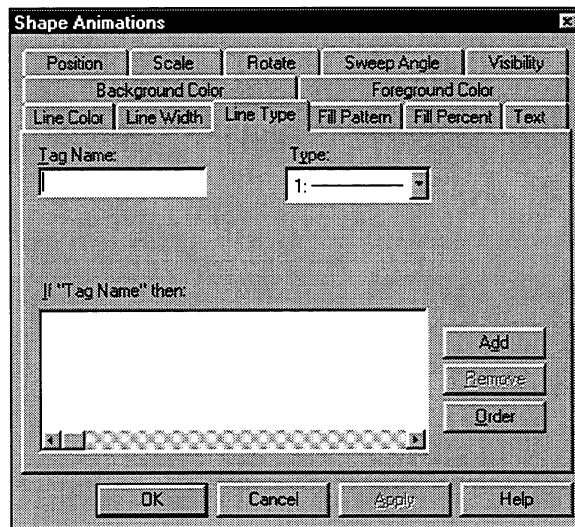

Figure 7-3. Line Type Animation Page
3. Choose the Line Type tab to access the Line Type animation page, as shown in Figure 7-3.